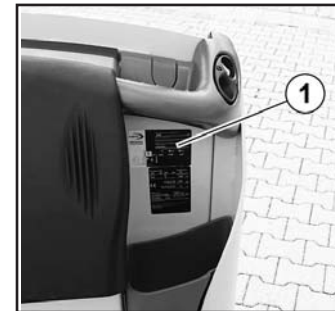

Fig. 1 Backrest
The Data plate (Fig.1, ①) is located on the backrest.